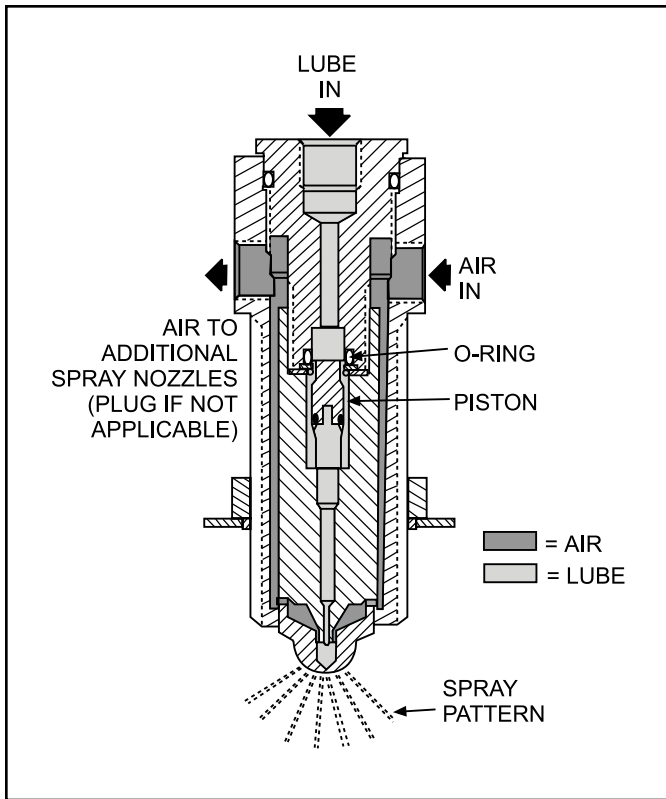

Figure 4-1. Spray Nozzle
4.2.2 SG-1 Spray Nozzle: As shown in Figure 4-1, the spray nozzle has a built-in piston and o-ring which acts as a check valve, opening only when the divider valves cycle. As the valves cycle, oil pressure opens the check valve and enters the chamber where air distributes the oil into the spray pattern. A defective check valve could allow the oil from the supplying tubes to leak into the spray nozzle even when the divider valve is not cycling. This could cause a void, resulting in an improper amount of lubricant being dispensed.